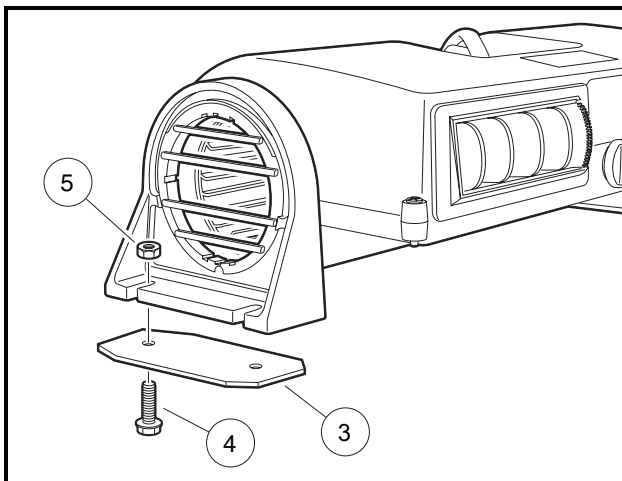

Figure 15 Install Aluminum Plates
- 3.6. Secure aluminum plates (3) to blower with 3/4-inch nylon bolts (4) and nuts (5) by inserting bolts up through bottom of plates using rear slots as shown (**Figure 15**).